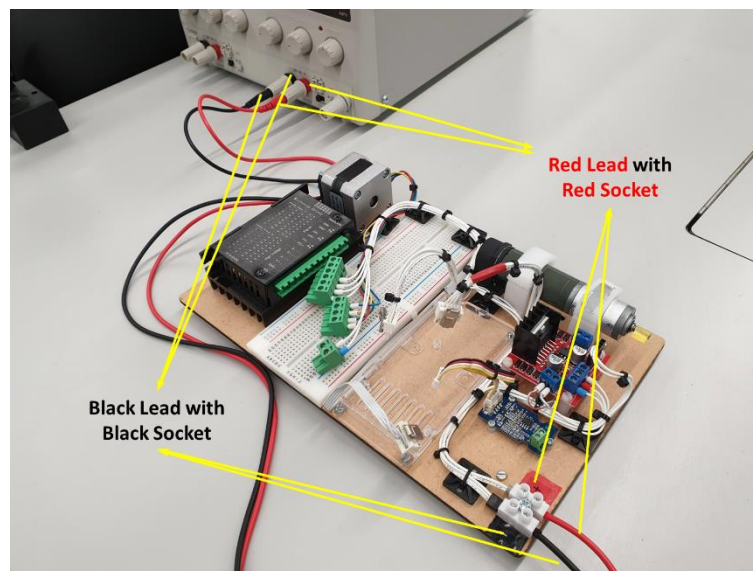

Figure 17 Polarity matching when connecting Power Supply
- d. **Main Power Supply** (bottom right of the lab kit base board) using the **Power Supply Leads** (see Figure 1 and Figure 2 a few pages above – ensure polarity is correct, i.e., **Red** with **Red**, and **Black** with **Black** – see Figure 17)